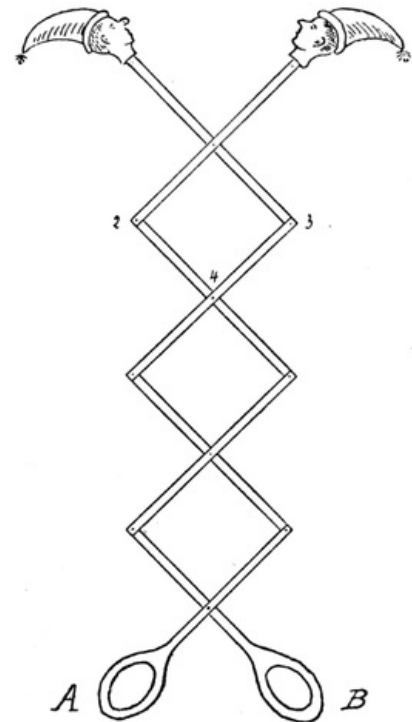

FIG. 490
**The Trellis Toy** (Fig. 490). The strips of wood for this toy should be as thin as possible. They are fastened together at points 1, 2, 3, 4, etc., by small pieces of wire, or by rivets bent down to prevent their slipping off, but not too tightly, so that the toy works easily. Heads can be cut out of cardboard painted and glued to the wood. Strips A and B should be wider at one end and have holes made in them for handles.